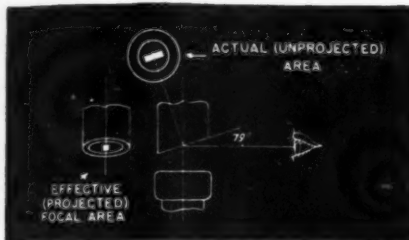

Fig. 5. X-ray tube "line focus" principal.
ray tube is converted into X-rays. The remainder appears as heat in the target. This makes the engineering of the X-ray tube difficult since means must be provided for removing the heat as fast as it is formed. The maximum power that an X-ray tube can dissipate is determined by how well the surface temperature of the metal composing the target can be kept below the evaporation point of the metal. This surface temperature may be very high because of the finite time it takes for the heat to be conducted away through the metal. It is often necessary to have the source of X-ray as near a point source as possible. A good example of a case where this is a necessity is in X-ray photography. The sharpness of the image depends upon the smallness of the source. This makes the problem of surface temperature a very great one. Various methods have been proposed for overcoming this difficulty to some extent. The two most widely used methods are the line focus and the rotating target methods. The principle of the line focus is shown in Fig. 5. It depends upon the fact that when a line is viewed from an angle it appears shorter. If a beam of electrons which is wider than it is high is allowed to fall upon a target placed at an angle to it, the actual surface involved in the production of X-rays will be a long, narrow strip, but when viewed from the side it will have the appearance shown in Fig. 5 if the initial beam size and the angle are right. This enables the production of an X-ray beam of higher intensity but smaller focal spot than would otherwise be possible without this additional spreading. The mechanism of the rotating anode tube can be seen from Fig. 4. An induction motor is built onto the tube using the target as a rotor. The field coils are placed on the outside of the envelop. The beam of electrons is placed off the center of the tube so that they strike the slanted portion of the rotating head which is covered by any metal desired. This tube combines the line focus with the rotating anode. This enables very intense beams to be produced without over-heating.
To better explain the two time base relations, Horizontally Displaced (H.D.) and Superimposed (S.I.) let us consider the scope screen divided into quadrants. See Fig. 4-A where the time bases placed on the X axis with one free to be deflected vertically in quadrants 1 and 4 and the other free to be deflected in quadrants 2 and 3. Fig. 4-C illustrates two signals of the same frequency, in phase, but of different amplitudes as they appear when impressed on the Horizontally Displaced time bases. This placement of the time bases occurs when the frequency of the scopes sweep oscillator is equal to the frequency of the electronic switch oscillator. If we double the frequency of the scopes sweep oscillator and not change that of the electronic switch both time bases will cover the full length of the X axis. Fig. 4-B. By Manipulation of positioning control R-4 (Fig. 5) we can place
**STABILITY:** (Refer to schematic diagram Fig. 5). By use of interlocking circuits the frequency of the square-wave generator is held constant by pulses from the output of the electronic switch which is an amplified version of the signal under observation. Pulses from the switching circuit lock the saw-tooth osc. within the scope, resulting in steady patterns on the screen. Slight changes in frequency, such as occur in most a.c.-operated test osc., will not cause the patterns to drift.
In testing or demonstration by proportion it is important that a reference setting be made first. In this particular test circuit this is best done by connecting No. 1 and No. 2 test leads (Fig. 5) to the same a.c. source (Fig. 1A) and adjusting gain controls for patterns of the same size, using S.I. time bases. Adjust controls so that pattern completely fills screen. This serves as a reference level of the output of the signal osc. Connect circuit 1b, using H.D. time base and vary service osc. until both patterns are of the same size. This indicates that the voltage across the condenser is the same as the voltage across the resistor and since it is a series cir.  $X_c$  equals  $R$ .
Use S.I. time base (Fig. 1A). Adjust switch freq. ( $R$ , Fig. 5), service oscillator and sweep oscillator of oscilloscope so that two or three cycles appear on the screen, overlapping to make one pattern. With this reference both patterns are developed from the same source and the phase difference is zero. This reference setting must be made either with the condenser shorted or the resistance open (Fig. 1A). Restore circuit as indicated in Fig. 2a. Readjust gain controls so that the pattern representing the applied voltage (No. 1) is slightly larger than the pattern representing the current (No. 2). Both of these patterns are voltage developed but since the voltage appearing across the resistance is the product of that resistance and the condenser current, it is in phase with the current through the condenser . . . No. 2 pattern is in phase with the condenser current.
By making the resistance considerably higher than the reactance of the condenser the two patterns will approach their reference position, indicating zero phase relation between  $E$  and  $I$ . When the resistance is much smaller than the reactance the current pattern will lead the voltage pattern by nearly ninety degrees (with this arrangement it is impossible to develop a pattern of exactly 90 degrees but we can easily achieve pattern shift of 85 deg.). In above operations, as the resistance is varied, adjust the gain control to channel No. 2 ( $R$ , Fig. 5) so that the  $I$  pattern remains slightly smaller than the  $E$  pattern. None of